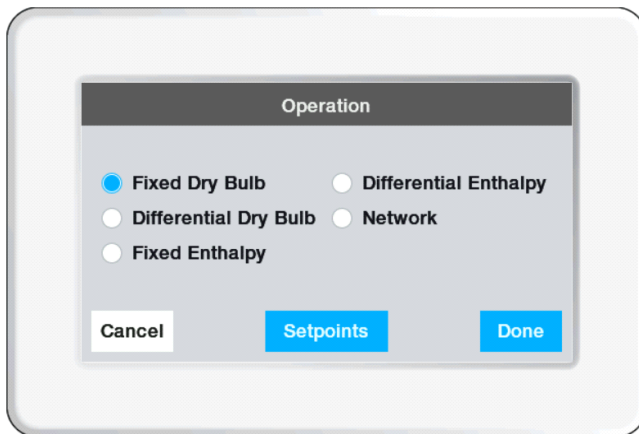

Fig. 11.
- (1) Select the economizer functionality needed for your application, refer to Fig. 11.
- (2) Select “Done.”